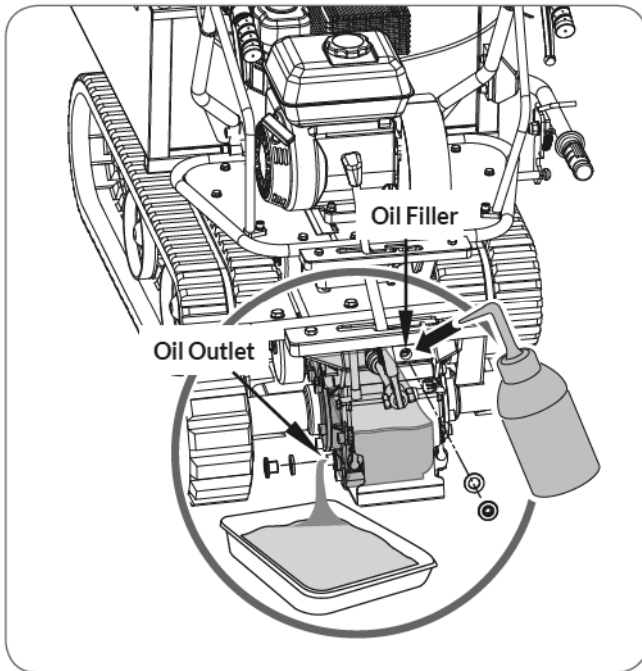

Figure 7
- » Transmission oil must be replace when engine is stopped and warm by unscrewing filler cap and drain plug. When oil is completely drained, replace filler cap and fill up with fresh oil. (See **Figure 7**)